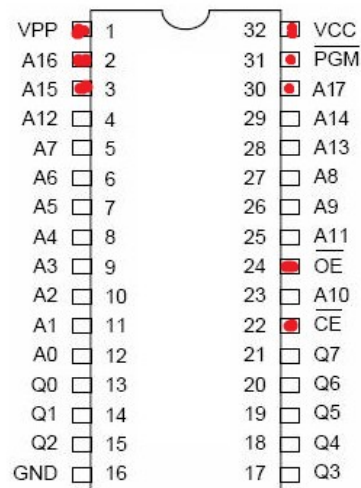

Figure 1
The DOC chip is labeled "5503 DOC" or "ICS1261D". It is at position U21. Each IC in the ESQm has the notch facing the front of the machine. Thus, this guide counts the pins on the DOC chip the same way as we count it on the EPROM as shown in Figure 1.
- 2) <http://p6ers.net/mm/pc-6001/dev/flashromcard/8k.html> (27C020 pinout graphic, Figure 1)